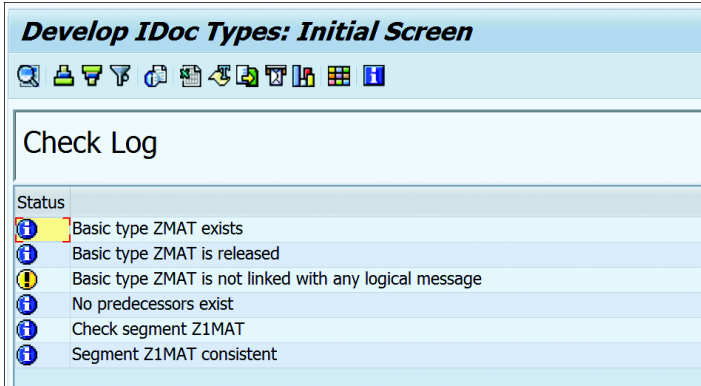

Figure 19.42 Consistency Check
7. You can check the consistency of the basic type by following the menu path DEVELOPMENT OBJECT • CHECK from the initial screen. At this point, when the basic type is checked for consistency, the system will show a warning message indicating that the basic type isn't linked to any logical type, as shown in Figure 19.42.